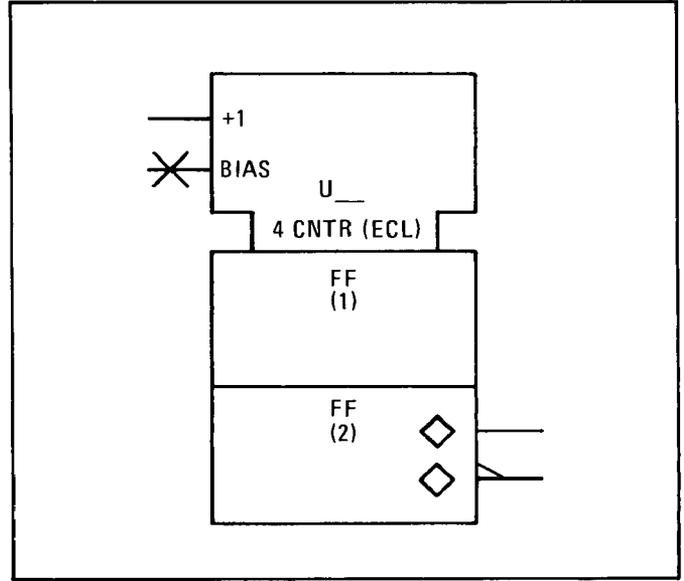

Figure 8-2. 4 Counter Symbol
**b. 4 Counter.** A 4 counter symbol is shown in Figure 8-2. The counter consists of two flip-flops which are internally connected to form a divide-by-four counter. Each time the +1 input goes positive the contents of the counter are incremented one count. The result is that the frequency of the signal at the output is one fourth of that at the +1 input.